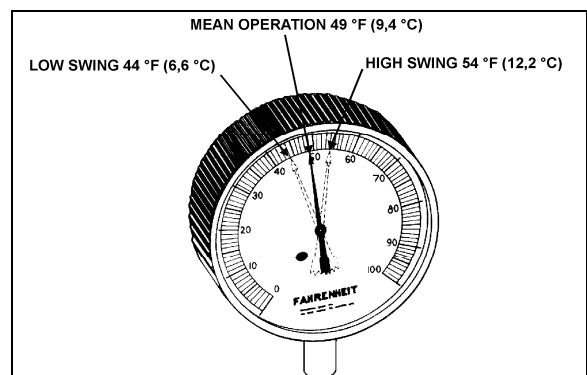

FIGURE 36: HIGH & LOW SWING TEMPERATURE AT REMOTE BULB 22047
6. Check approximately 5 readings of pressure at 2-minute intervals and convert to temperature using the vapor-pressure table (page 36). Likewise check the temperature reading at the remote bulb at the same 2-minute intervals and record the low and high swing readings of the needle (refer to figure 36).
Example of readings taken at Fig. 36: